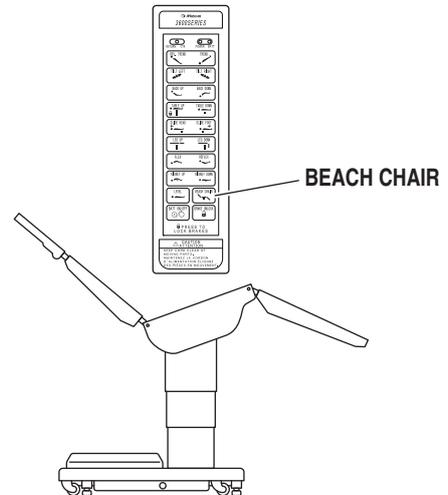

Figure 2-16. Beach Chair Positioning
k. **Beach Chair** To place the top in the beach chair position from a level position, press the BEACH CHAIR button (figure 2-16). The back section will raise, the leg section will lower and the Trendelenburg positioning will function simultaneously. The functions will stop when Trendelenburg reaches its limit.